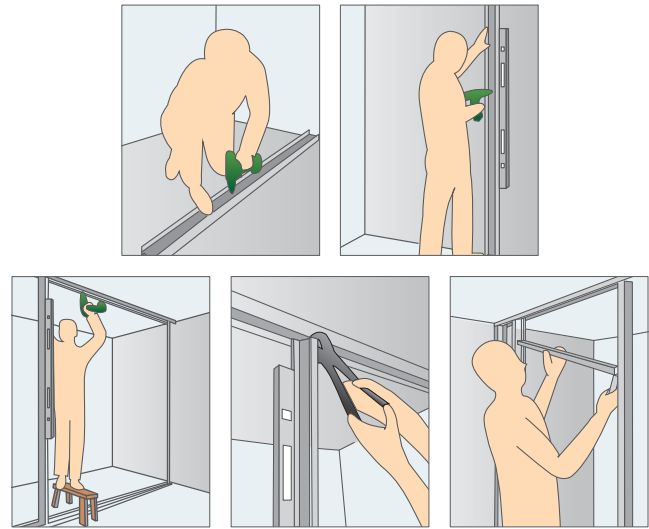

Figure 2: Guideline for Stud Framing Installation Sequence.
- Top (ceiling), bottom (floor) and masonry wall tracks are to be anchored to the floor slab at maximum spacing of maximum 610mm centers. Refer to Figure 2 for guideline for stud framing installation sequence.